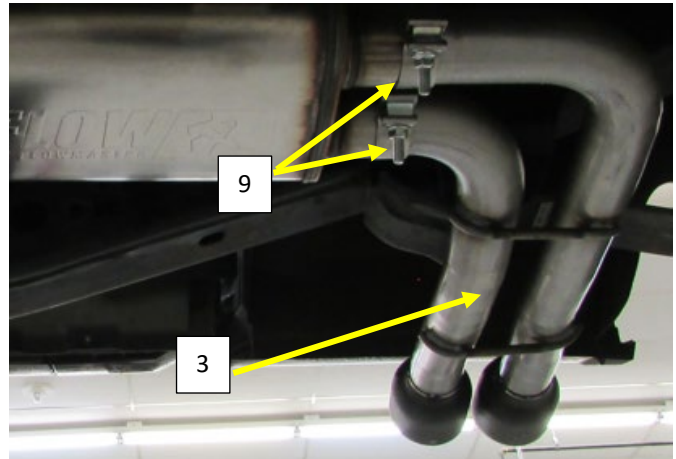

Figure.5
6. Install the supplied 2.5" band clamps (9) on to the muffler outlet pipes **Fig.5**
7. Install the tail pipe assembly (3) into the muffler outlet pipes approximately 2.5". Support the tailpipe assembly with the tips 1" from the bottom of the bed. **Fig.5**